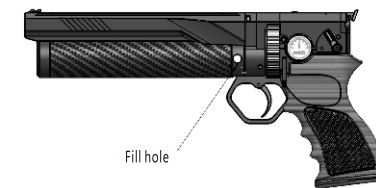

FIG.4
- ❖ Attach the fill probe to your charging equipment, which must be equipped with a pressure gauge. Ensure both fill probe and the filler hole are clean from dirt, and then insert the fill probe into the filler hole (See FIG.4).